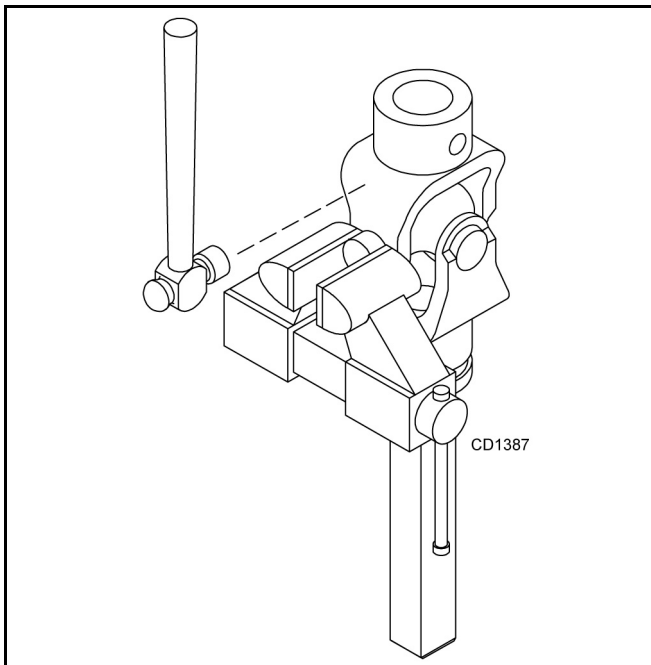

Figure 17
3. Clamp cup in vise as shown in Figure 17 and tap on yoke to completely remove cup from yoke. Repeat step 2 & step 3 for opposite cup.